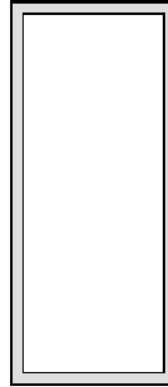

Figure 14. Solder Paste Application on Pins
4. The aperture opening for the signal pads should be between 50–80% of the QFN pad area as shown in Figure 14.